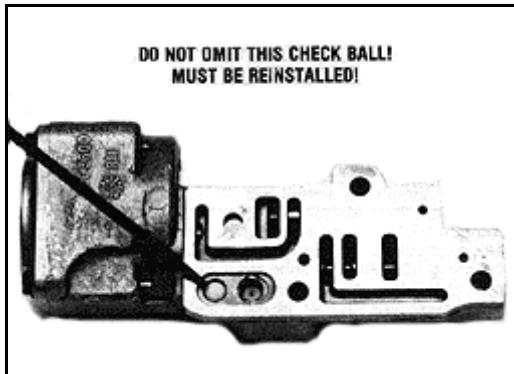

Figure 9
STEP 8 Place the separator plate with gasket against the transmission case. Install the small support plate (1982-1986) or auxiliary valve body plate (1987 and later). Install check ball (**See Figure 9**) and four (4) OEM bolts loosely. Insert two (2) valve body bolts into the two (2) alignment holes in the separator plate. Tighten the support plate bolts. Remove two (2) valve body bolts from the alignment holes.
STEP 9 INSTALL VALVE BODY: Be sure to engage manualvalve with linkage properly. Do not force the valve or bend the linkage during assembly. Install one (1) valve body bolt to hold the valve body into place. *DO NOT TIGHTEN BOLT*